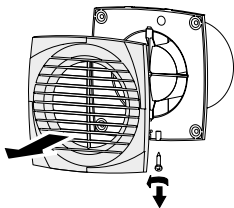

RYS. 4. Wentylatory serii SUBTIL / SIMPLE / MODERN / MODERN Tekno / MODERN Light / WESTA / WESTA Awto
- SUBTIL / SIMPLE / MODERN / MODERN Tekno / MODERN Light / WESTA /WESTA Awto – Rys. 4.